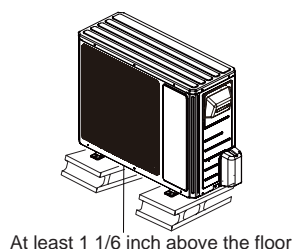

Fig.18
- (1) Take sufficient protective measures when installing the outdoor unit.
- (2) Make sure the support can withstand at least four times the unit weight.
- (3) The outdoor unit should be installed at least 1 1/6inch above the floor in order to install drain joint.(As show in Fig.18)
- (4) For the unit with cooling capacity of 2300W~5000W, 6 expansion screws are needed; for the unit with cooling capacity of 6000W~8000W, 8 expansion screws are needed; for the unit with cooling capacity of 10000W~16000W, 10 expansion screws are needed.